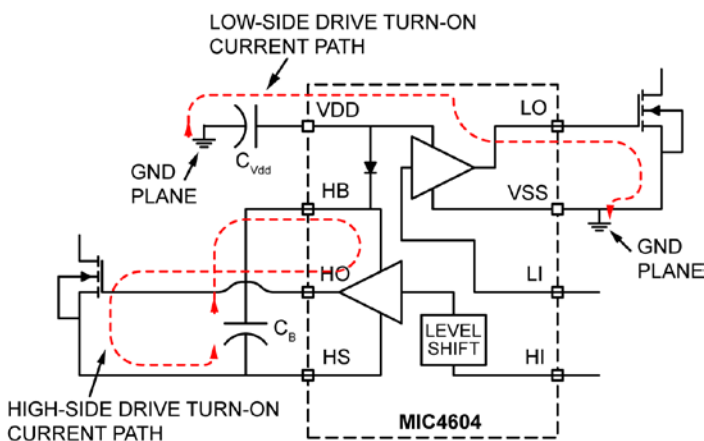

Figure 8. Turn-On Current Paths
**Figure 8** shows the critical current paths when the driver outputs go high and turn on the external MOSFETs. It also helps demonstrate the need for a low impedance ground plane. Charge needed to turn-on the MOSFET gates comes from the decoupling capacitors  $C_{VDD}$  and  $C_B$ . Current in the low-side gate driver flows from  $C_{VDD}$  through the internal driver, into the MOSFET gate, and out the source. The return connection back to the decoupling capacitor is made through the ground plane. Any inductance or resistance in the ground return path causes a voltage spike or ringing to appear on the source of the MOSFET. This voltage works against the gate drive voltage and can either slow down or turn off the MOSFET during the period when it should be turned on.